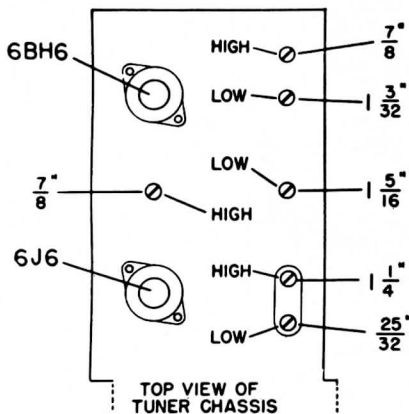
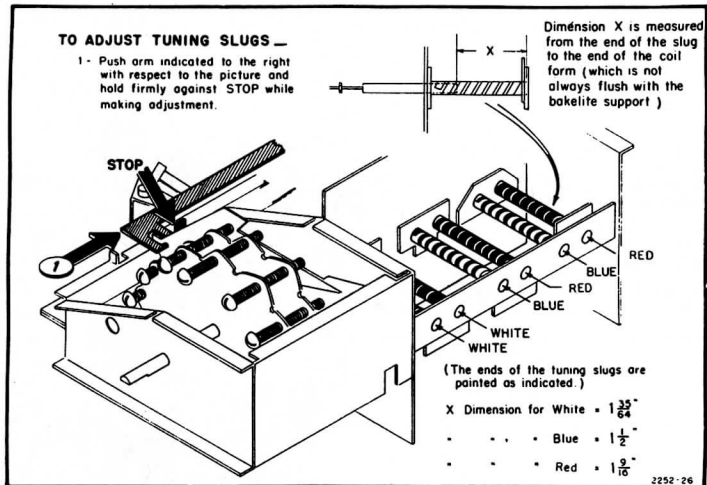

FIG. 4
FIG. 5
Pre-set the trimmers to the approximate dimensions shown in Fig 4 and pre-set the slugs to the dimensions shown in Fig 5. (A) LOW BAND ALIGNMENT Turn the channel selector switch to channel 6 and turn the channel 6 station selector screw one turn out from its maximum "in" position.